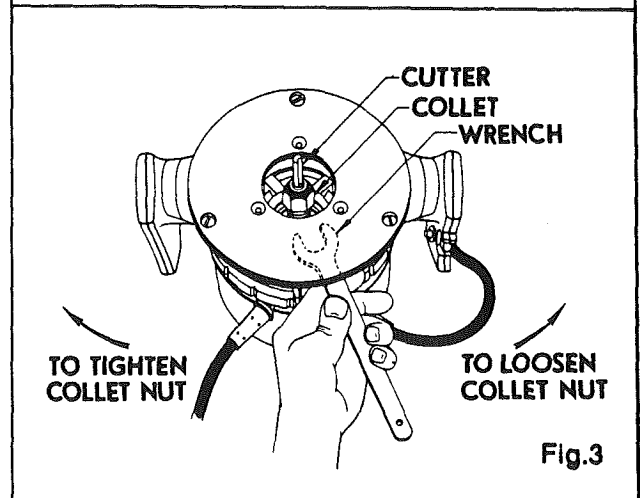

Fig.3
4. Tighten the collet nut securely by turning clockwise with the wrench provided. See fig. 3. Put spindle lock back in unlock position. Otherwise the interlocking mechanism of the spindle lock will not let your router turn on.